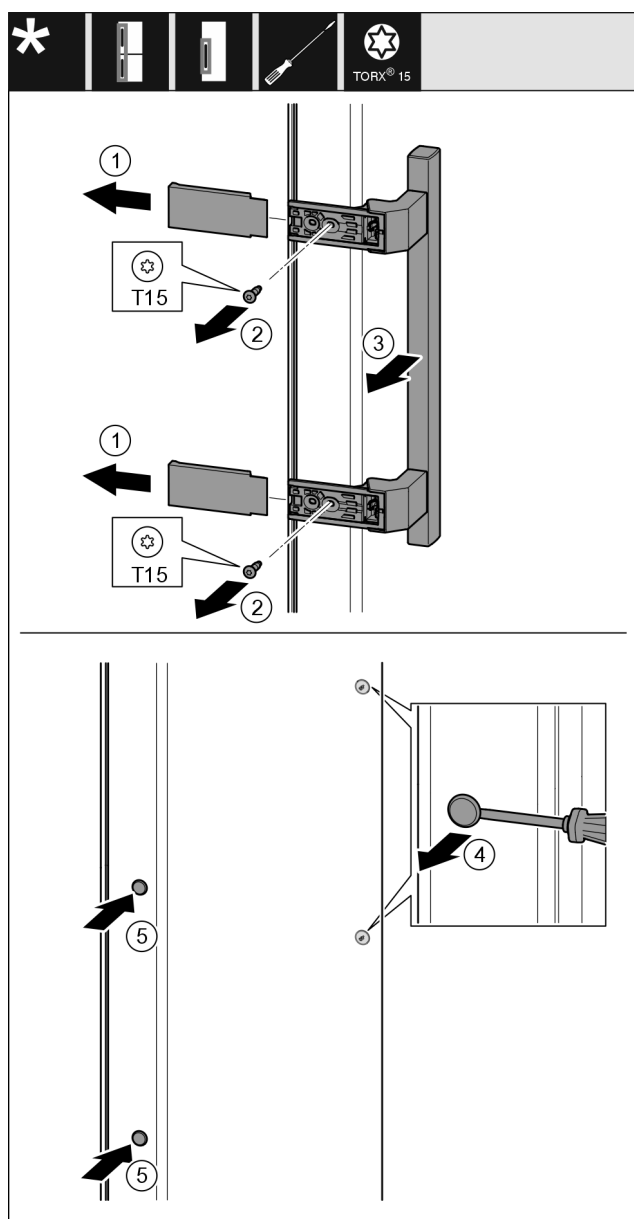

Fig. 20
- Remove the cover Fig. 20 (1).
- Unscrew screws Fig. 20 (2) with screwdriver.
- Remove the handle Fig. 20 (3).
- Use a slotted screwdriver to lift the side plug Fig. 20 (4) carefully and pull it out.
- Re-insert the plug Fig. 20 (5) on the other side.